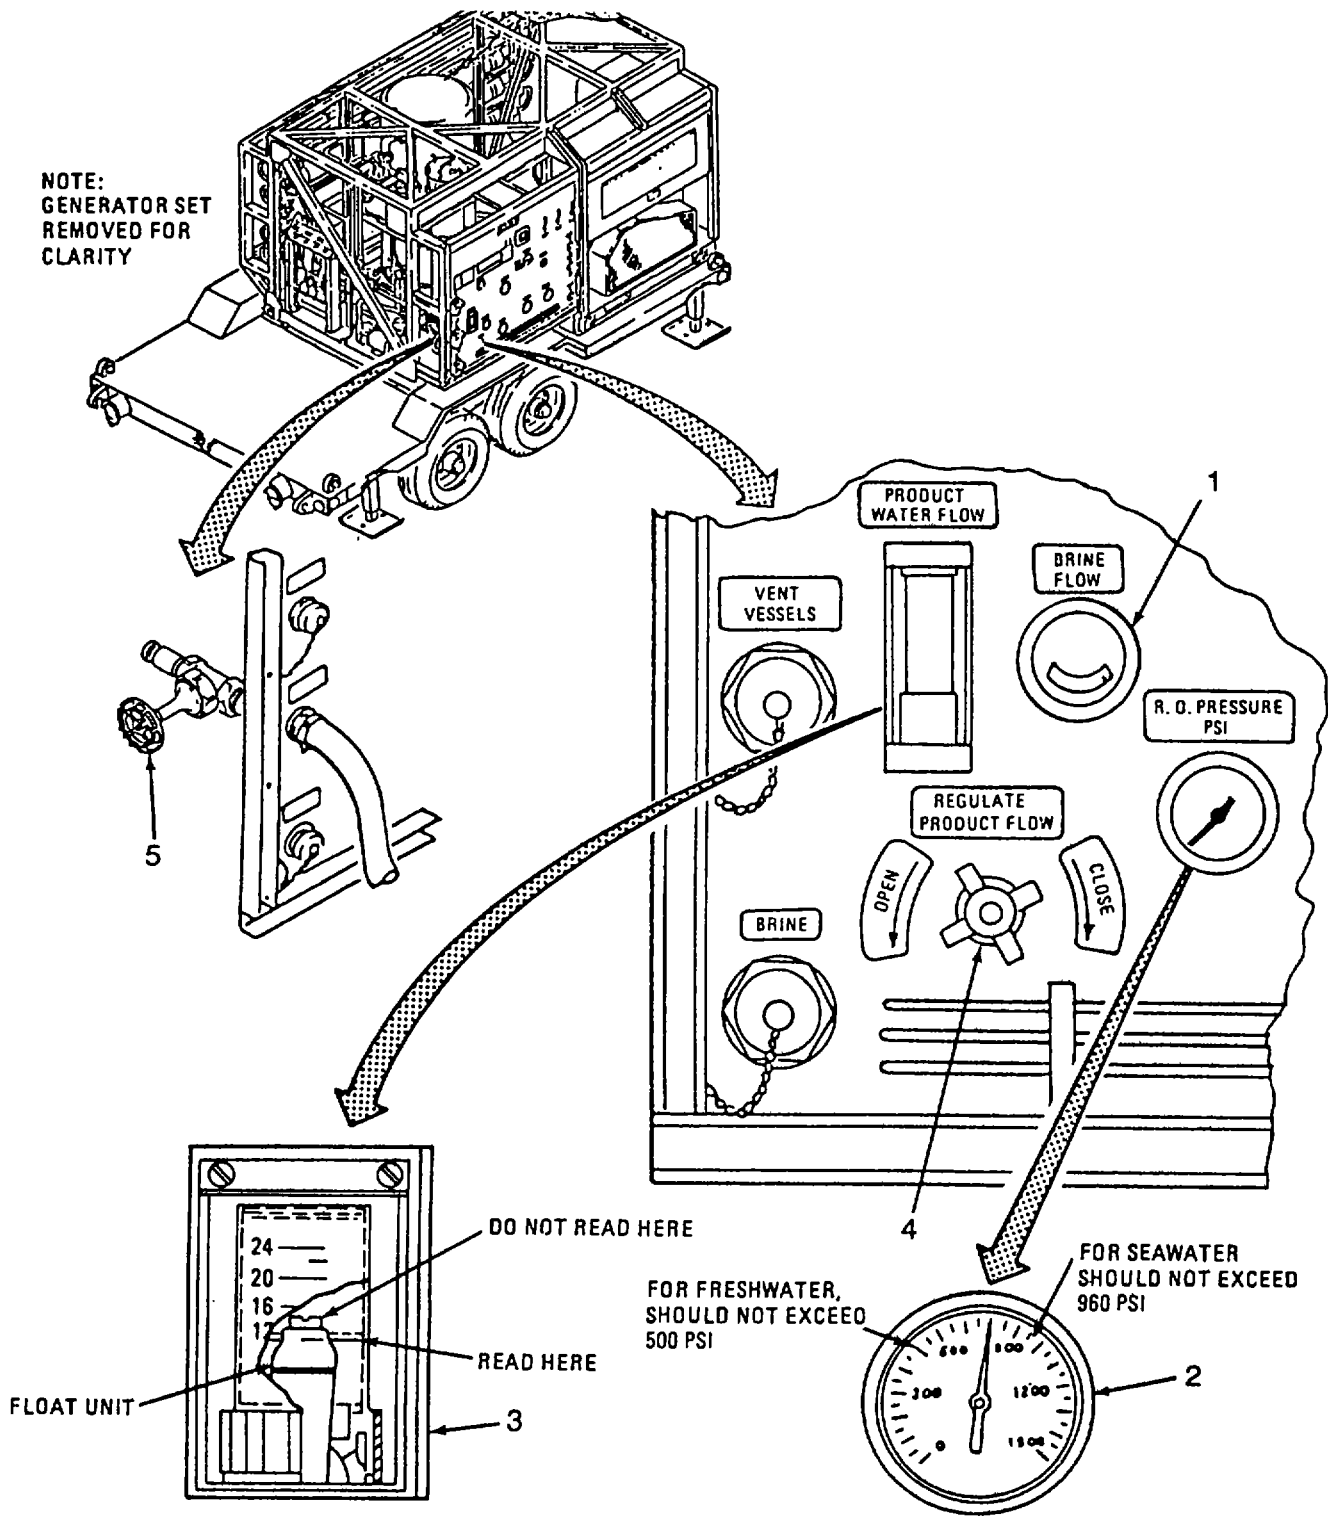

Figure 2-61. Final Adjustments
- (3) Check that the REGULATE PRODUCT flow valve (4, figure 2-61) is fully open.
- (4) Slowly close VENT VESSELS gate valve (5). This allows filtered water to enter R.O. vessels.